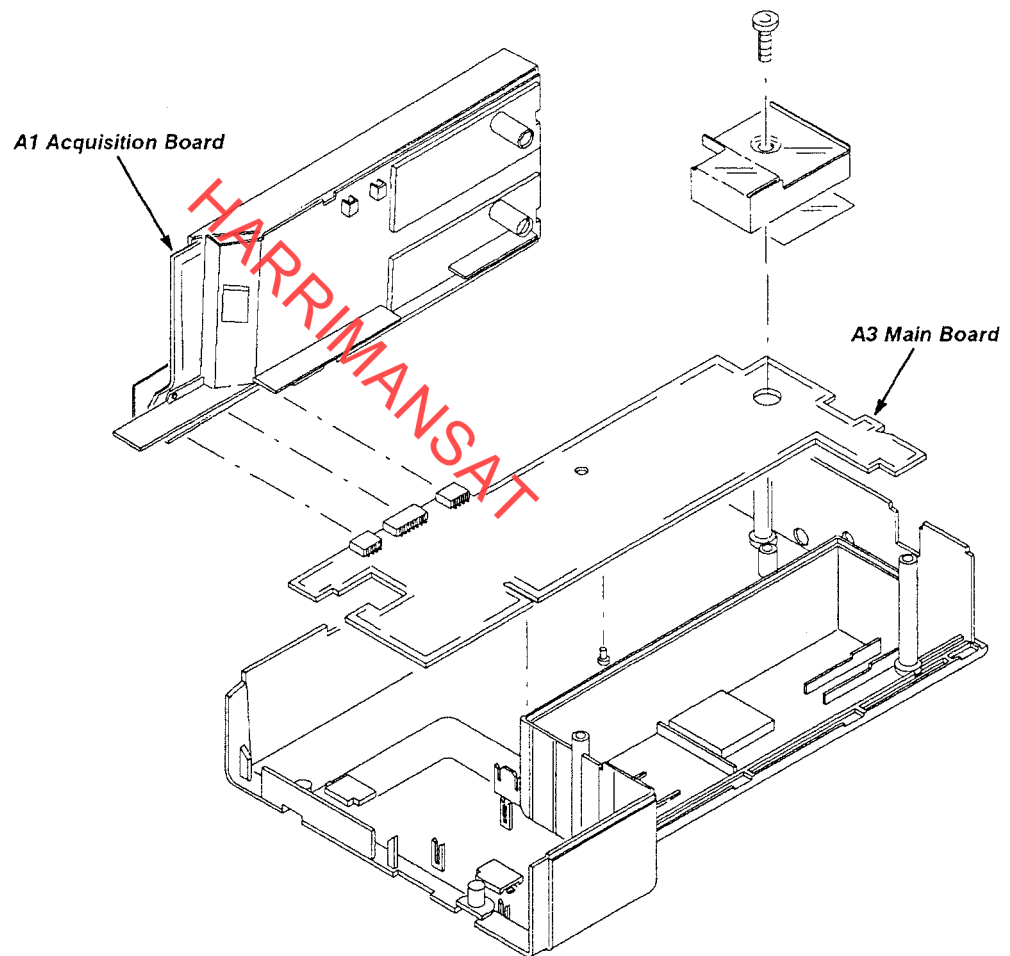

Figure 6-6: Removing the Main and Acquisition Boards as an Assembly
The Acquisition board and Main board procedure, removes the Acquisition and Main boards as an assembly from the bottom case. Once the assembly is out of the case, the two boards can be easily separated. Refer to Figure 6-6 during this procedure.
4. Remove the securing screw from the Main board: Remove the T-15 Torx head screw (see Figure 6-6 for the location) that holds the Main board to the bottom case.